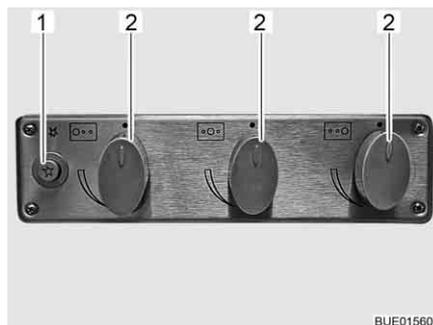

Fig. 162 Operating controls for gas cooker
- Turn the control knob (Fig. 162,2) on the burner you wish to use to the ignition position (large flame).
- Press the push button (Fig. 162,1).